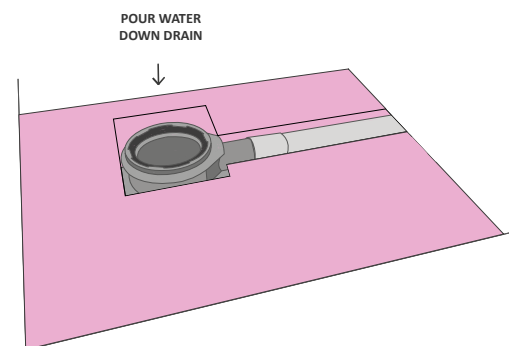

Fig. 17
4. Once the solvent is dry, test the outflow by pouring some water into the drain (Fig.17).